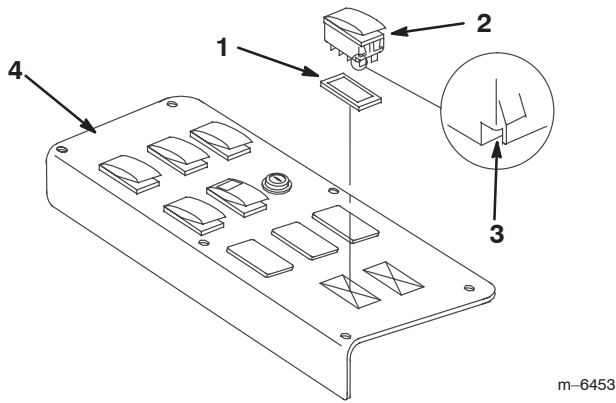
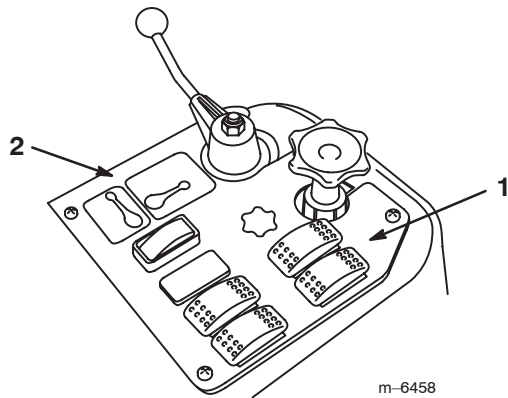

Figure 19
Figure 20
1. Remove the spray control panel to expose the bottom side (Fig. 19 for the 1250 and Fig. 20 for the 1200).
2. Lift and remove the 2 plugs from the spray control panel on the vehicle and install the 2 rocker switches provided in their place (Fig. 19 for the 1250 and Fig. 20 for the 1200).
Note: Ensure that the orientation of the switches matches what is shown in Figure 19, with the notch pointing toward the rear of the vehicle.